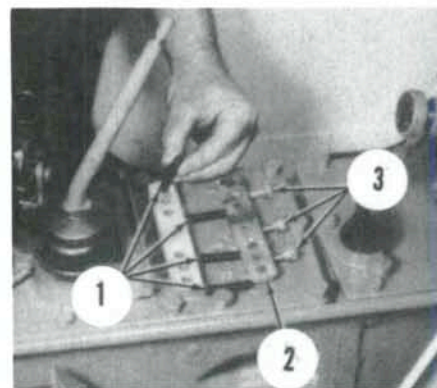

Fig. 214—Shift detent springs (2) and balls should be removed prior to removing shift cover to avoid loss or damage of springs.
Disconnect hydraulic lines as necessary. Remove shift detent cover plate (2—Fig. 214), springs (1) and balls. Remove shift cover from transmission housing. Remove cover plate or shift cover from front of rear axle center housing.